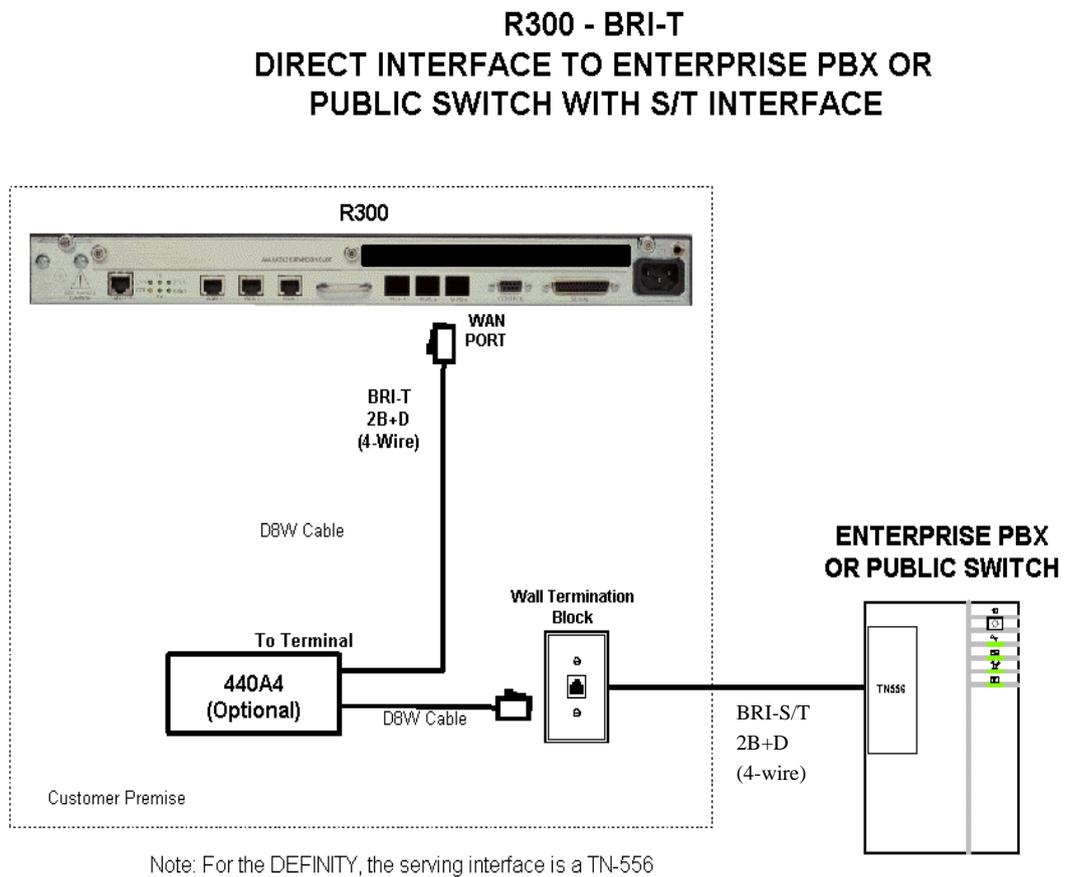

Figure 12. BRI-T Direct Interface to Enterprise PBX or Public Switch with S/T interface
Figure 12 illustrates how the Avaya R300 BRI-ST model can connect up to either an enterprise PBX or to a public network service provider. This application diagram shows the use of a terminating resistor (TR) adaptor, the 440A4, which is optional. When the T-interface requires this resistance unit to balance the cable plant between the receiver and the transmitter, then the TR adapter must be used. It may be built into a network termination (NT1) module. In this case, the user can configure the value of resistance with one of three options: